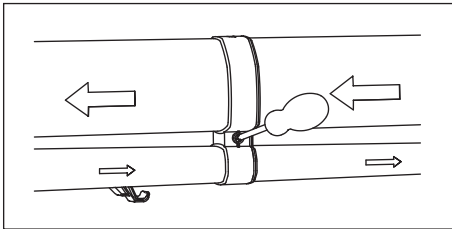
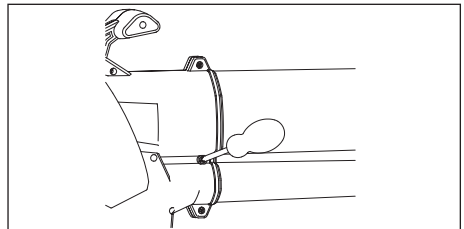
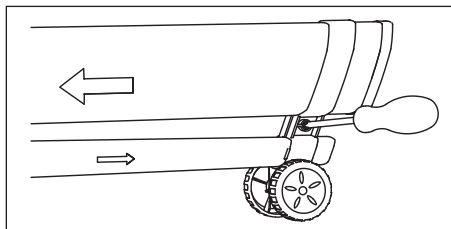

Fig.3
Fig.4
Fig.5
Assembly (Fig.3 Fig.4 and Fig.5)
1. Pull out the two suction/blower tubes, one Vacuum-blower body, 1set wheel + bracket, four screws that in the manual bag from package, the user need to assemble the tube 2-1 Insert into tube 2-2 forcibly, fasten the screw (ST4 x 50) until they connect well. Please refer to Fig. 3. And then put the whole tube into the machine body and secure fixed by other two provided screw (ST4 x 16), refer to Fig. 4.
2. Refer to Figure 5, holding bracket of wheels and install it in the proper position of 2-1 tube, and then tighten the ST4 x16 screw.